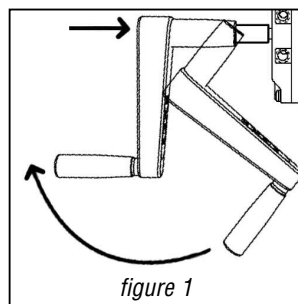

figure 1
- 1) Gently raise handle into locked position (see *figure 1*).